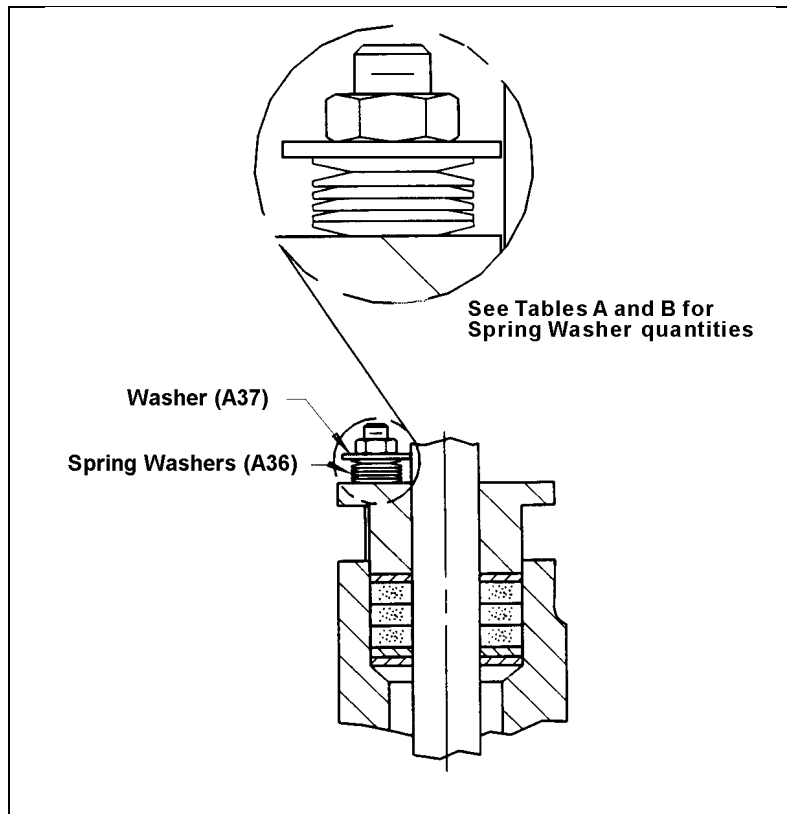

Figure 8 — Packing Option (G2L)
Note: Arrange the spring washers in the configuration shown in Figure 8 on page 13, with the top and bottom washers in series and the remaining washers in parallel.
- Place the new packing (A11) and anti-extrusion washers (A34) in the body, one ring at a time, in the configuration shown in Figure 8.
- The two flat washers (A37) in the configuration shown in Figure 8 on page 13, with the top and bottom washers in series and the remaining washers in parallel—do not tighten the nuts.